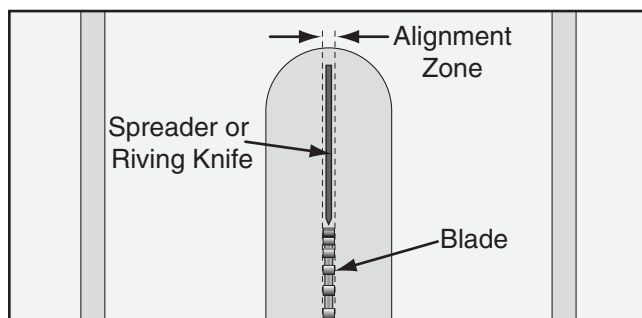

Figure 35. Spreader/riving knife alignment zone.
5. Place a straightedge against the blade and the spreader. When properly aligned, the spreader/riving knife will be in the "Alignment Zone," shown in **Figure 35**, and will be parallel with the blade.